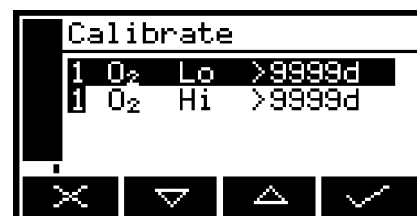

Figure 62 – The calibrate screen
- + If the auto validation/calibration option is installed, the gas control relays (Section 5.2.5) will select the correct gas once the manual calibration screen is shown (Figure 62). Sample gas will be reselected once the screen is exited.
Note that the "9999d" field of the screen shown in Figure 62 will identify the period of time that has elapsed since the last calibration, and can be in any of the following forms: